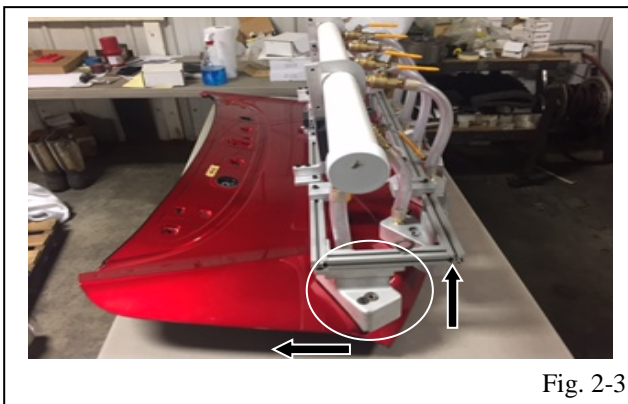

Fig. 2-3
- c) Align the fixture in position on the rear deck lid by ensuring the side and front locators fit into the door gap and seat the fixture fully forward and to the left (Fig. 2-3). Once the fixture is located, turn on the vacuum to secure it in place.